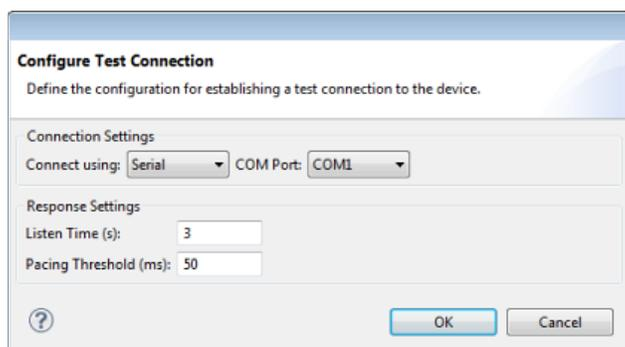

FIG. 78 Configure Test Connection dialog (Serial connection shown)
2. Click a *Test* link to open the *Configure Test Connection* dialog (FIG. 78). Use the options in this dialog to define the configuration for establishing a test connection to the device. By default, this dialog is set to use the *Transport Configuration* specified in the Communication tab (see page 24).